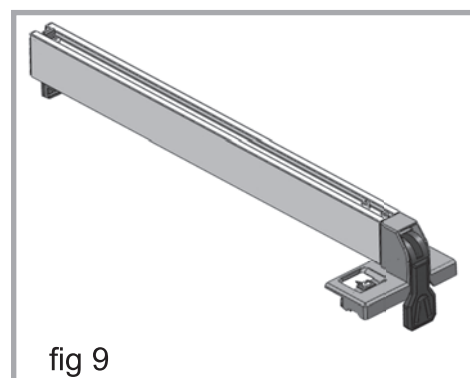

fig 9
1. The fence is pre-assembled in the carton (fig 9).
Insert pin into the lock as shown in Fig 9